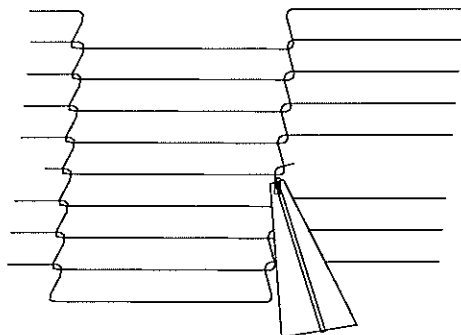

Figure 4-25.
2. Using long nose pliers, unhook master links at left end of conveyor as shown in Figure 4-25.